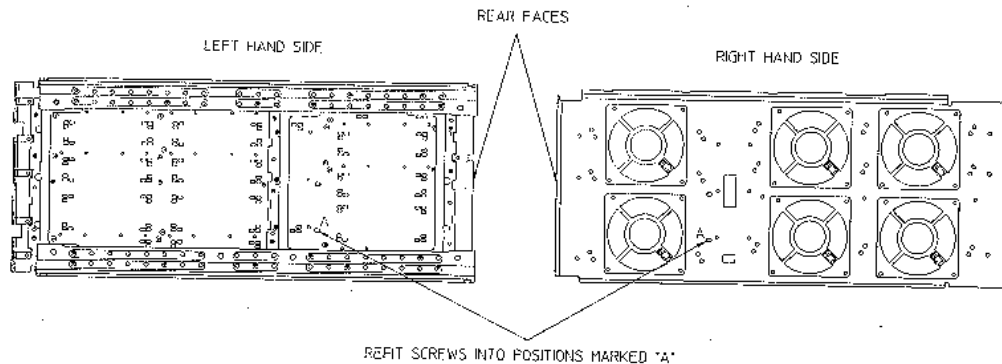

Figure 22
12. Re-fit screws into positions A, as shown in FIG 22, to secure the power supply assembly.